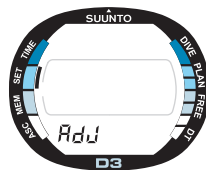

Fig. 4.16. Unit Adjustment Mode.
1. In the Setting Mode [SET], press **S** six (6) times to select the Unit Adjustment Mode (Fig. 4.16.).